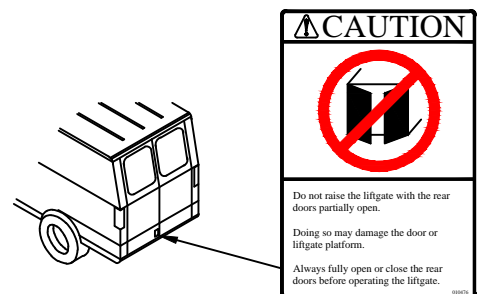

Figure 25: Caution decal location.
4. **Drill** two (2) 13/64" holes in the platform, using the holes in the aluminum cover as a guide.
5. **Install** two (2) 1/4-20 self-tapping screws in the drilled holes.
6. **Install** the lower aluminum cover using four (4) 1/4-20 self-tapping screws.
8. **Secure** the limit switch wire to the support arm and limit switch bracket using two (2) plastic zip ties. This should be done with the platform unfolded.
9. **Adhere** decal (PN 10476) to the exterior bottom right corner of the driver side rear door (Figure 25).